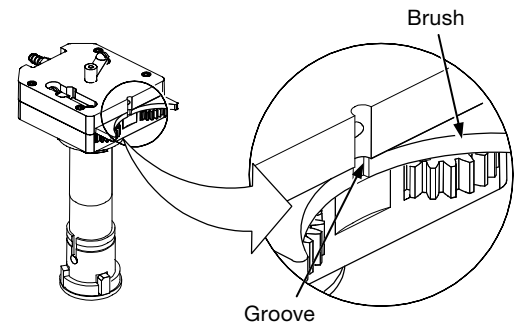

Figure 31 Inspecting the Brush
9. Examine the brush. See Figure 31.